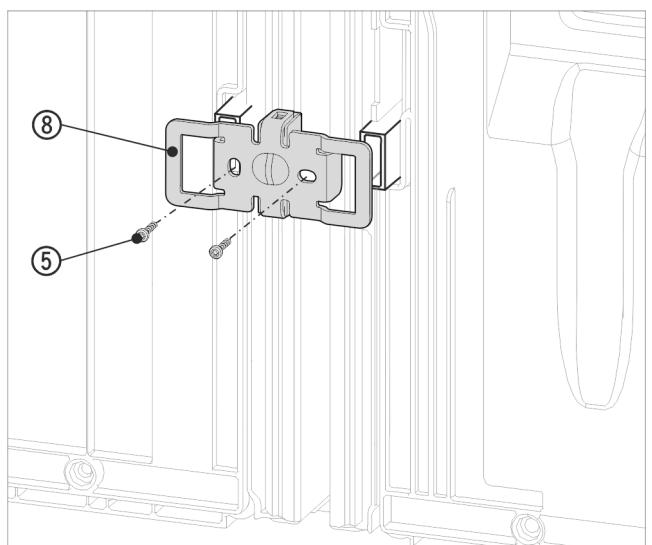

Fig. 17 Example illustration
- ▶ Slide the bracket Fig. 17 (8) on once more with the slots over the retainer for the wall spacers.
- ▶ Tighten firmly with 2 screws Fig. 17 (5).